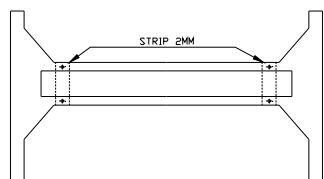
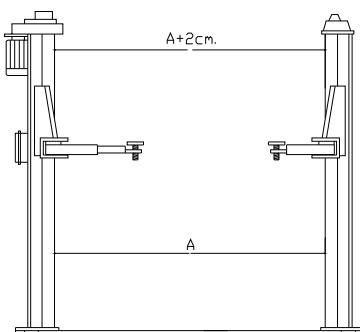

Fig.36
Fig.37
In order to compensate for deflection of the posts under load, they must be tilted slightly outwards towards the top. The distance between the posts at the top must be approx. 2cm greater than at the base (Fig.37). The divergence of the posts must be equally distributed between the two.
- Insert a 2-mm thick strip beneath the base under the holes(Fig.36). Screw the studs in the holes until the desired inclination is achieved (Fig.37).